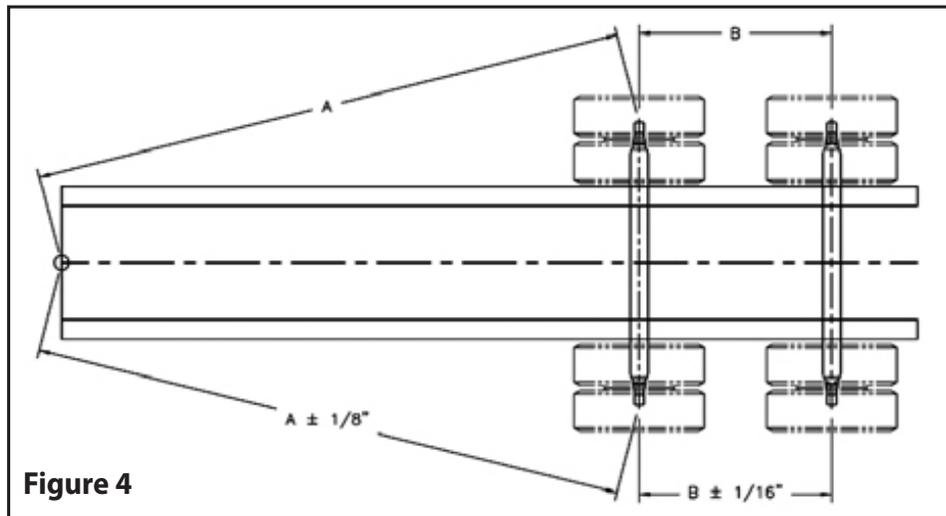

Figure 4
2. Align the forward axle to the center of the kingpin within $\pm 1/8''$ (Figure 4).
4. Align the aft axle(s) to the forward axle to within $\pm 1/16''$ using the same procedure (Figure 4).